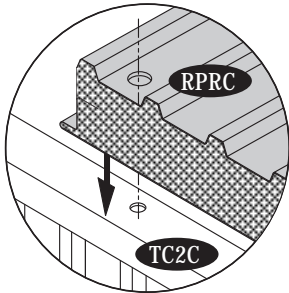
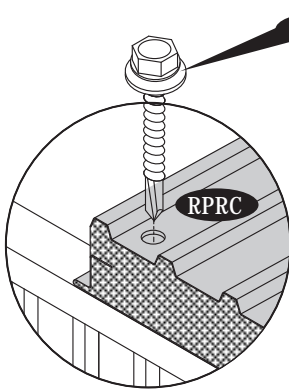

Fig.1
Fig.3
49. Insert the door stopper (DSC) on top of the base 'U' channel. See fig.1&2. Line up the pre drilled holes and secure with (S1) screws from inside & outside. See fig.3.
50. Insert the door stopper (DSC) to the top 'U' channel. See fig.1&2. Line up the pre drilled holes and secure with (S1) screws from inside. See fig.3.
51. Place the roof panel (RPRC) on top of the 'U' channel. Make sure the thicker section must face towards the front. Line up the pre drilled holes on roof panel with top 'U' channel. See fig.1&2. Secure the roof panel with (S11) & (S10) screws. See fig.3&4.